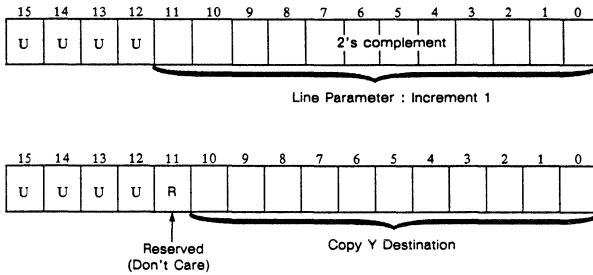

Figure 3-15. Copy Y Destination/Incr 1 Register (8AE8h Write Only)
ment 1 value when drawing a line (see Figure 3-15). The command performed is specified by the Drawing Command (DC) Register. The value is 12 bits unsigned when line drawing is specified. The minterm for the line drawing is: